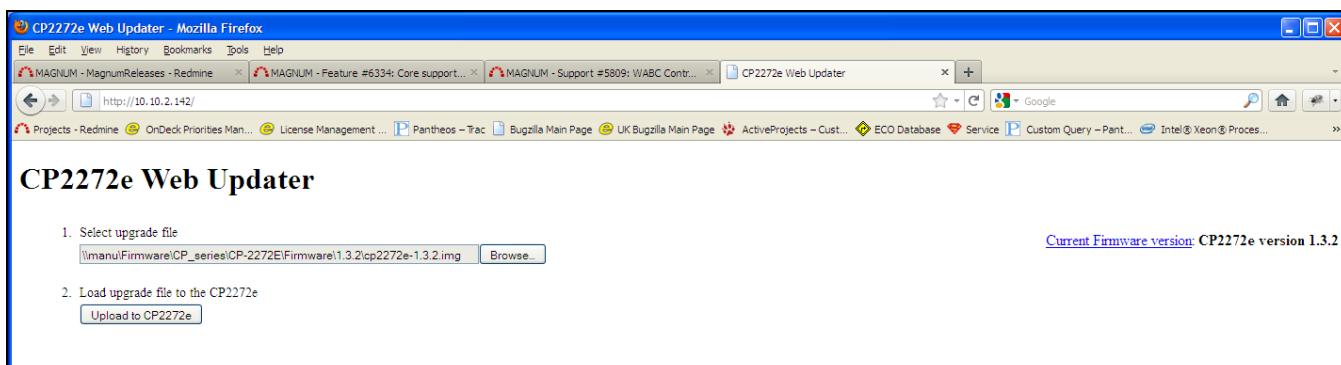

Figure 5-1: CP2272e Main Screen
1. To upgrade firmware using the web interface, open a firefox web browser and enter the IP address of the CP-2272E into the address field, and then press the <enter> key. The *CP-2272E Web Updater* screen will appear, as shown in Figure 5-1.